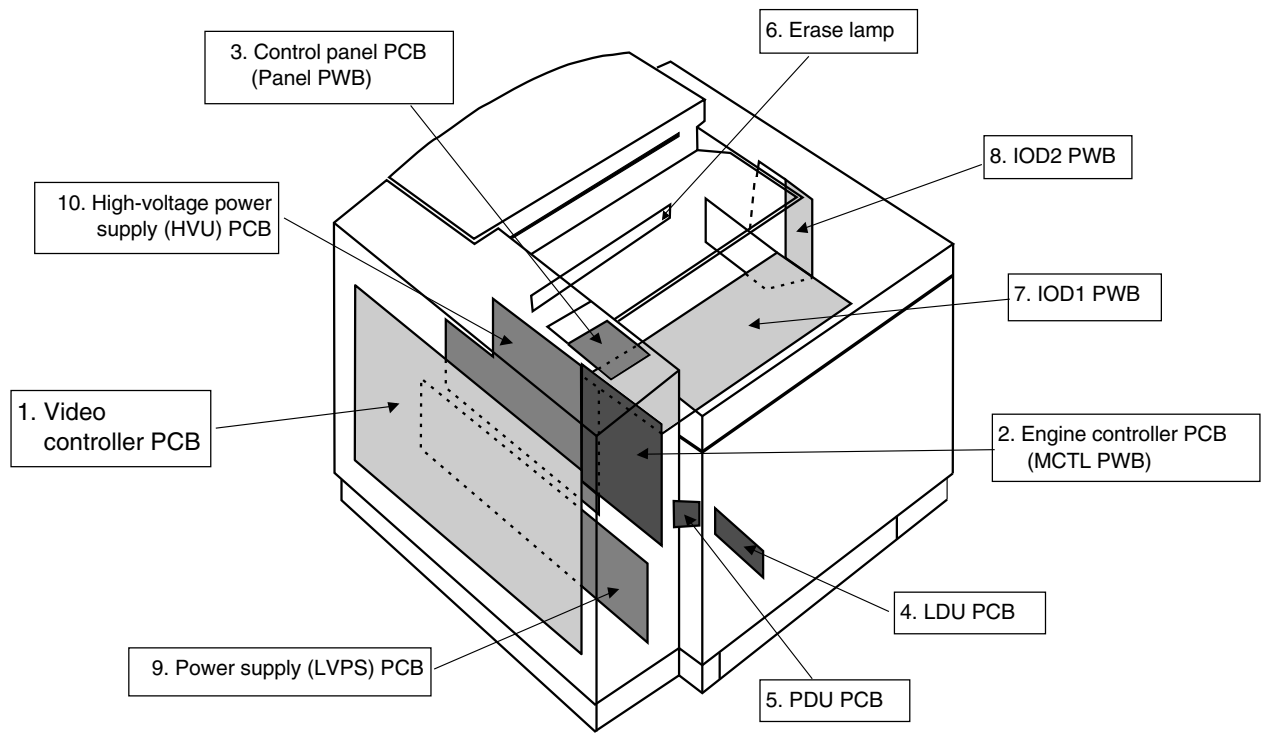

Fig. 4-29
(1) Print PCB (Refer to Fig. 4-29.)